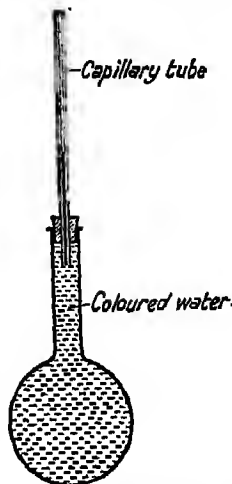

FIG. 218. Water expands on heating.
**Expt. 261.** Fit a small flask with a one-holed cork through which passes a glass tube with a small bore (Fig. 218). Fill the flask with water coloured with red ink. When the cork is replaced some of the coloured water should rise in the tube. Heat the flask gently. Note the rise of the water in the tube as the heating proceeds. This means that the volume of the water in the flask increases on heating. Actually the volume of the flask also increases as the glass expands on heating. The increase in volume of the flask, however, is very much smaller than that of the water. The expansion of the water noted is called the *apparent expansion*. The *real expansion* is greater.